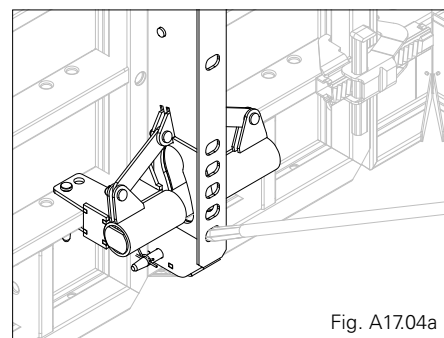

Fig. A17.04a
4. Bring shaft element into shuttering position by means of a crowbar. Press crowbar downwards. (Fig. A17.04a, A17.04b)